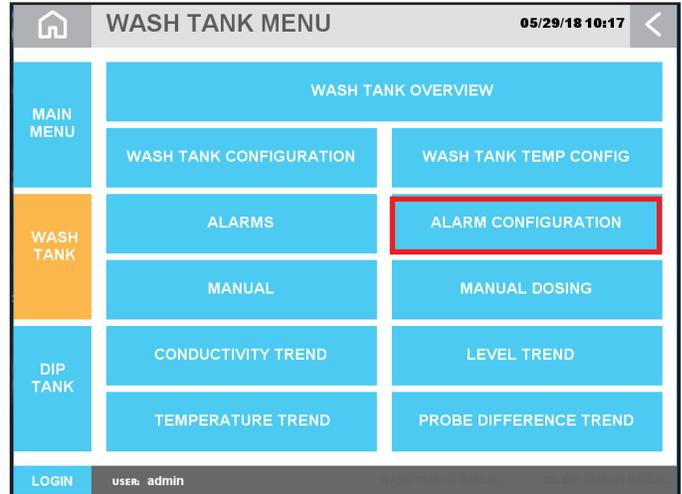

Figure 6.1: Wash Tank menu, Alarm Configuration Selection
2. Navigate to **WASH TANK > ALARM CONFIGURATION** [Figure 6.1].